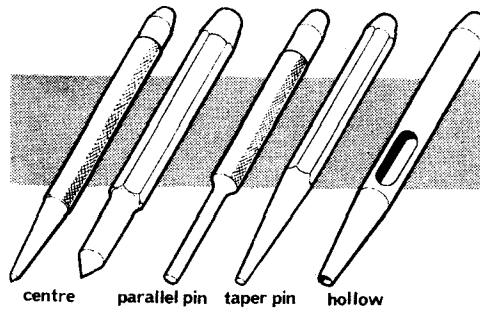

Fig. 18 Punches
17. Punches are used to localise the blow of a hammer and to prevent damage to the area surrounding the working point. Various types are available, some of which are shown in Fig. 18.